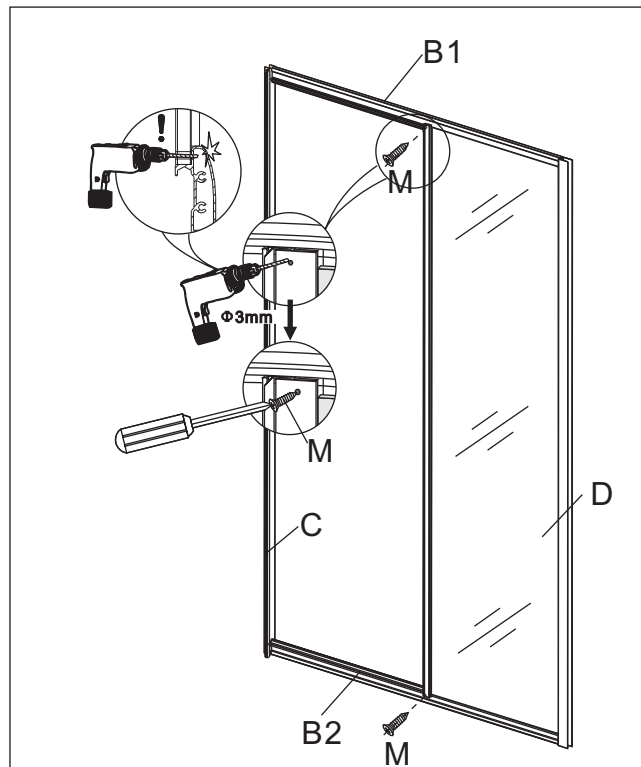

Fig.6
6a. Using a 3mm HSS drill bit, drill through the pilot holes in the top and bottom of the fixed panel seal profile, through the splash seal (K), into the top and bottom tracks. See **Fig.6**.
6b. Secure the fixed glass panel to the top and bottom tracks using screws ST4x16mm (M). See **Fig.6**